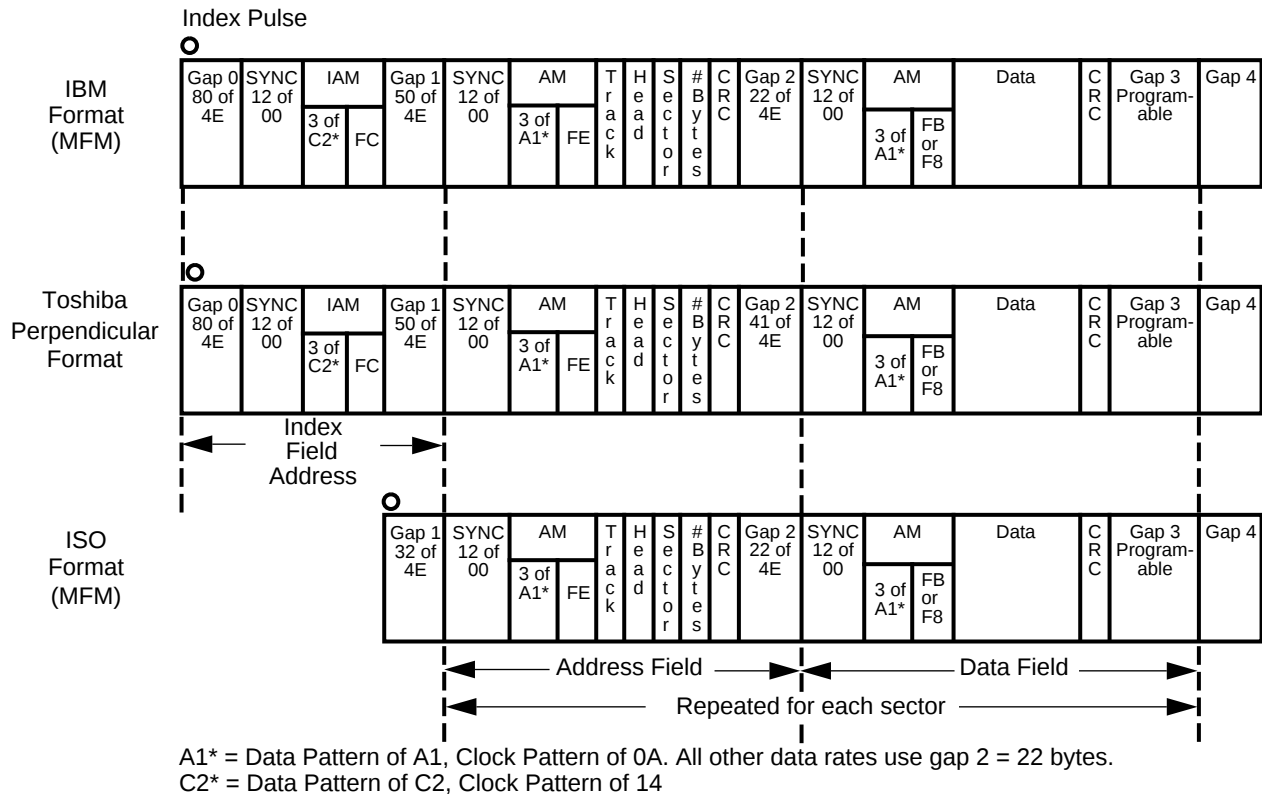

FIGURE 5-20. IBM, Perpendicular, and ISO Formats Supported by the FORMAT TRACK Command
After a pulse from the INDEX signal is detected, data patterns are written on the disk including all gaps, Address Marks (AMs), address fields and data fields. See Figure 5-20.
- b. Gap 3 is the suggested value for the programmable GAP3 that is used in the FORMAT TRACK command and is illustrated in Figure 5-20.
Figure 5-20 illustrates the track format for each of the formats recognized by the FORMAT TRACK command.
b. Gap 3 is the suggested value for use in the FORMAT TRACK command. This is the programmable Gap 3 illustrated in Figure 5-20.